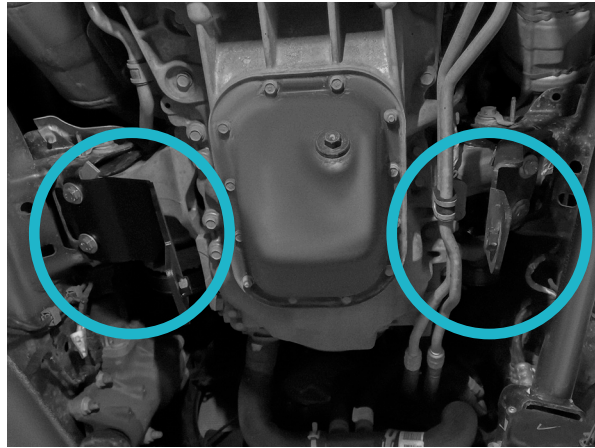

Fig.6
3. Install mount bracket 1 (fig. 7) and mount bracket 2 (fig. 8) (pos.2, 3) using bolts M10x20 (pos.D), washers 10 (pos.H) and insert nut M10 (pos.K) (fig.6). \*Do not tighten yet.